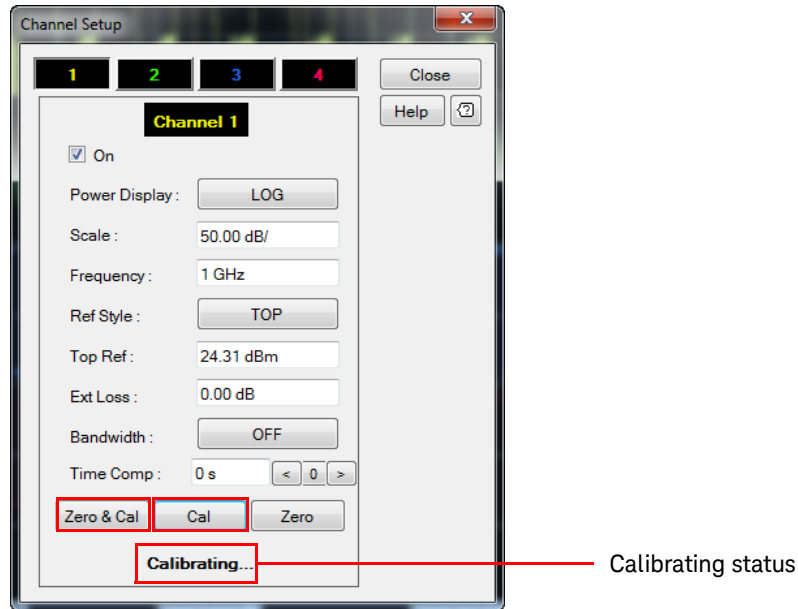

Figure 2-142 Cal and Zero & Cal buttons on the Channel Setup dialog
- 4 The 8990B also allows you to manually perform calibration of the sensor from the Channel Setup dialog as shown in Figure 2-142.
- 5 You can also perform zeroing and calibration of the sensor with the **Zero & Cal** button as shown in Figure 2-142. Refer to “Accessing the Channel Setup” on page 51 for more information on the Channel Setup dialog.